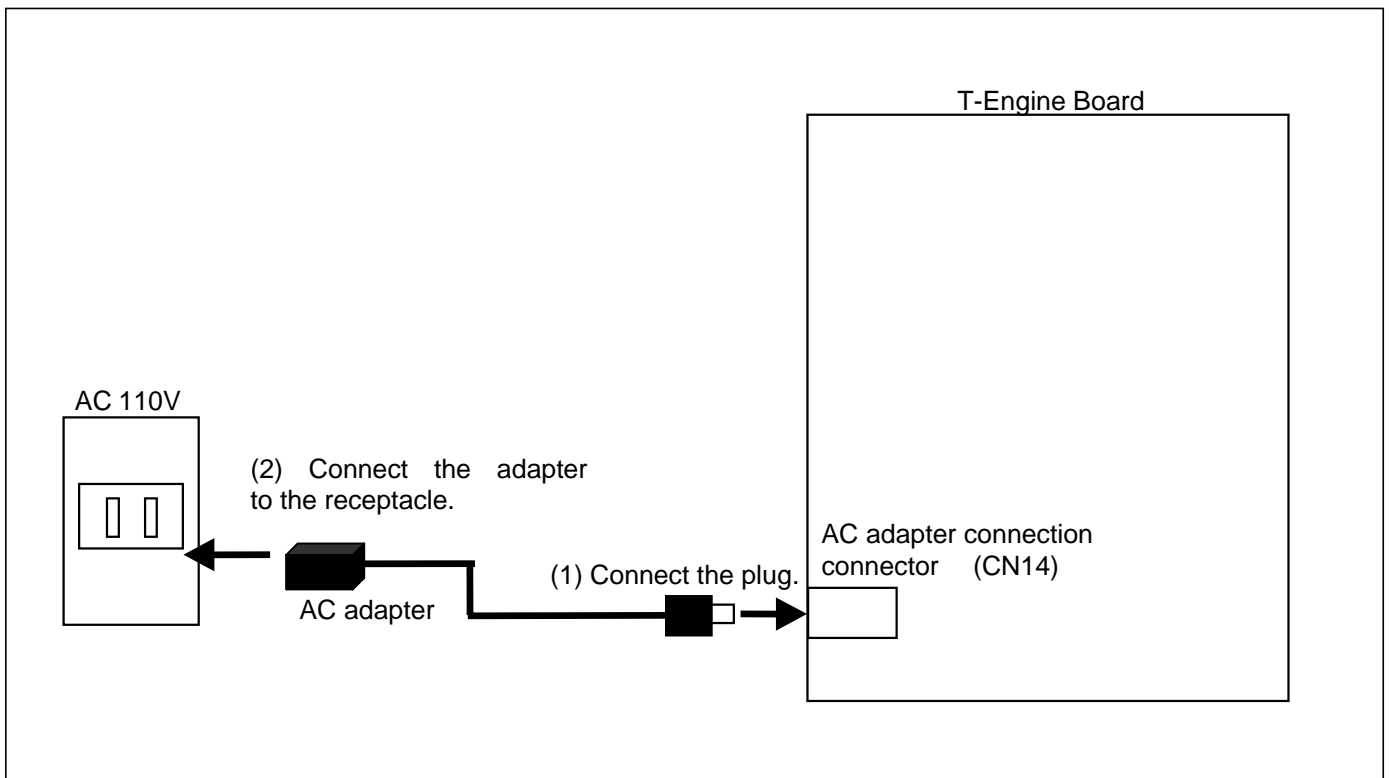

Figure 2.3 AC Adapter Connection Cord
Figure 2.3 shows an AC adapter connection method. As shown in Figure 2.3, connect the plug to the AC adapter connector of the T-Engine board (1), then connect the adapter cord to the receptacle (2).